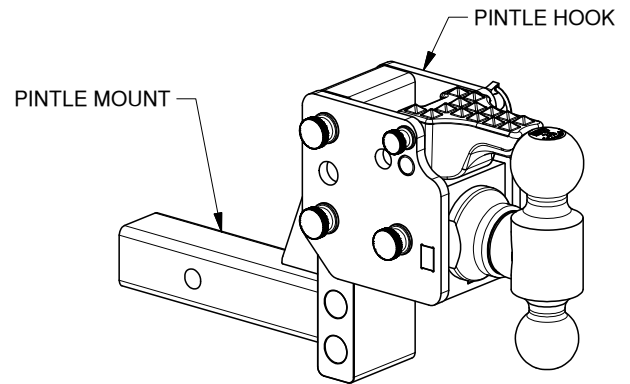

Figure 3: Pintle hook reversed
- **Reversing the pintle mount for more adjustment options.** The pintle mount can be reversed so that it is placed in the receiver with the adjustable pin block away from the ground for greater height adjustment, see Figure 3. To reverse the pintle mount, remove the two 7/8" stainless steel pins securing the pintle hook to the pintle mount. Flip the pintle mount over and replace in the receiver hitch. Move the pintle hook to the desired position and replace the stainless steel pins.